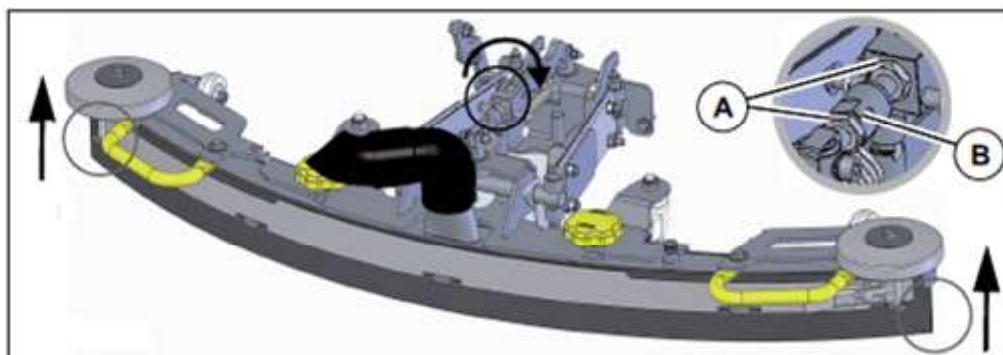

Figure 7.2a
2. Loosen the lock nuts (figure 7.2a-A) and adjust the squeegee by turning the adjusting bushing (figure 7.2a-B) so that the ends of the sealing strips are just about touching the ground.
The distance between the sealing strip and the ground increases at the ends figure 7.2a.